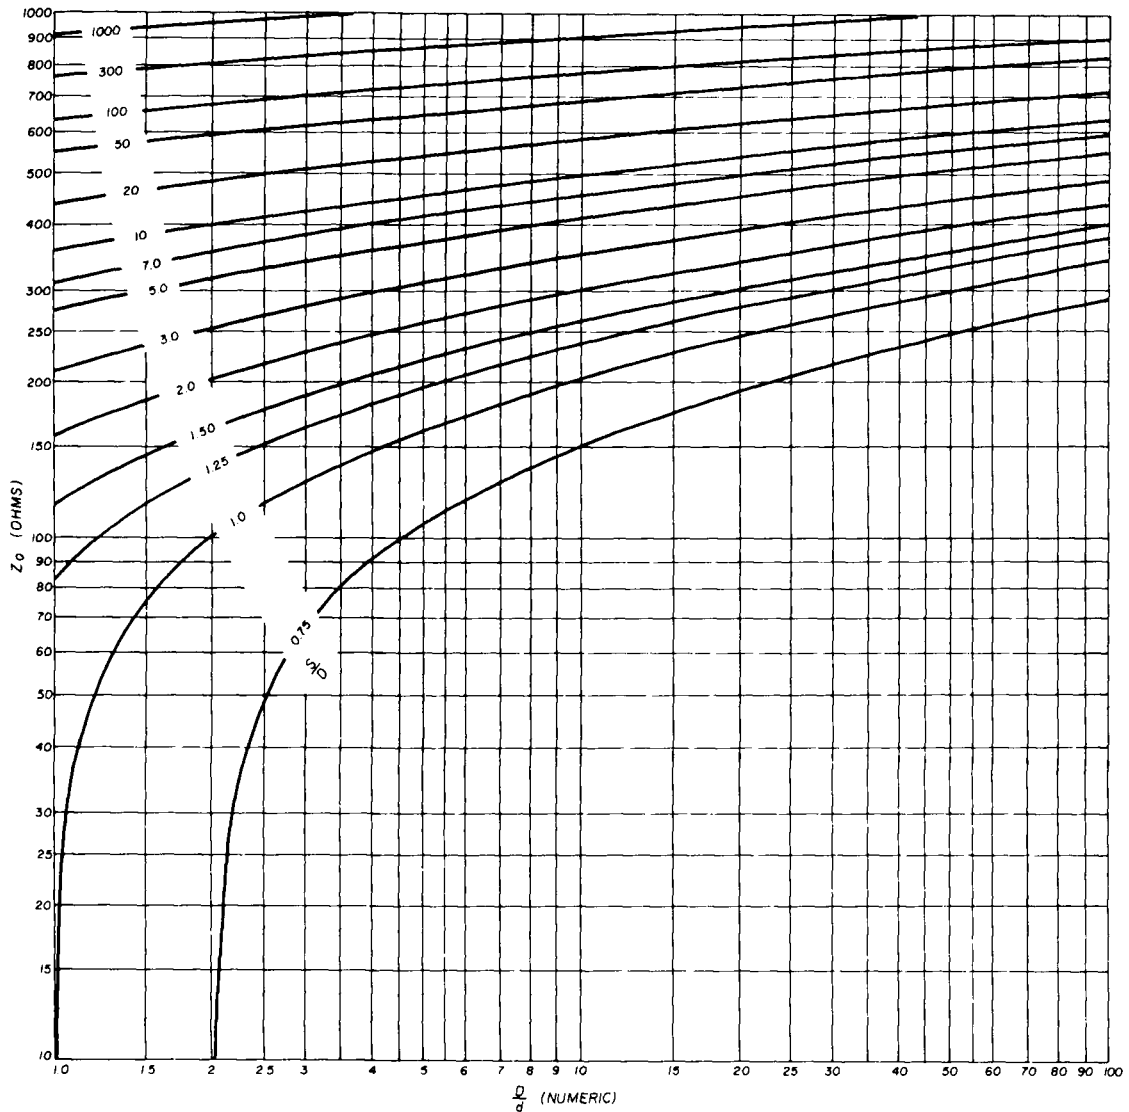

fig. 4. Characteristic impedance of the omega rod, Z_0 , as a function of element diameters and spacing.
Fig. 4 shows a graph of Z_o plotted as a function of normalized values of S/D and D/d .
2. Use **fig. 4** to determine the impedance of the omega rod, Z_o , from the S/D and D/d ratios selected in **step 1**.